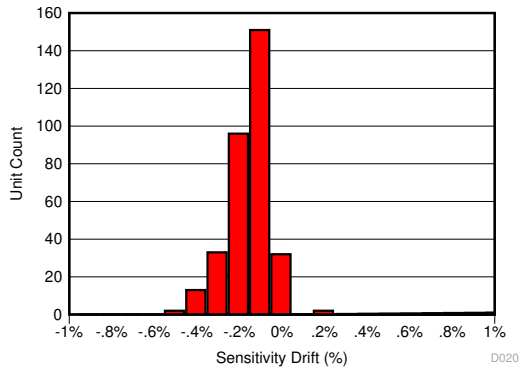
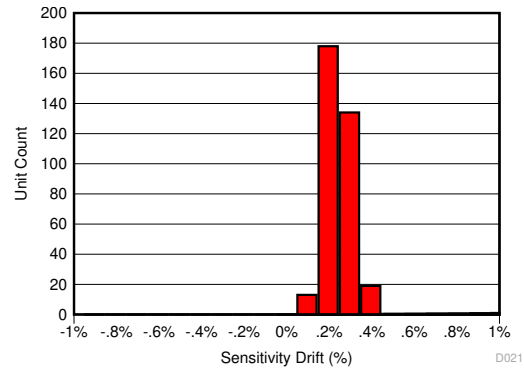
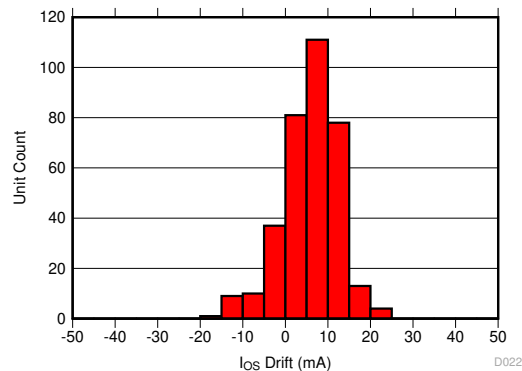

Figure 8-6. Sensitivity Error After 130°C, 85% RH HAST
Figure 8-7. Sensitivity Error Drift After AEC-Q100 High Temperature Operating Life Stress Test
Figure 8-8. Input-Referred Offset Drift After AEC-Q100 High Temperature Operating Life Stress Test
The same compensation techniques used in the TMCS1101 to reduce temperature drift also greatly reduce lifetime drift due to aging, stress, and environmental conditions. Typical magnetic sensors suffer from up to 2% to 3% of sensitivity drift due to aging at high operating temperatures. The TMCS1101 has greatly improved lifetime drift, as defined in the Electrical Characteristics for total sensitivity error measured after the worst case stress test during a three lot AEC-Q100 qualification. All other stress tests prescribed by an AEC-Q100 qualification caused lower than the specified sensitivity error, and are within the bounds specified within the Electrical Characteristics table. Figure 8-6 shows the total sensitivity error after the worst-case stress test, a Highly Accelerated Stress Test (HAST) at 130°C and 85% relative humidity (RH), while Figure 8-7 and Figure 8-8 show the sensitivity and offset error drift after a 1000 hour, 125°C high temperature operating life stress test as specified by AEC-Q100. This test mimics typical device lifetime operation, and shows the likely device performance variation due to aging is vastly improved compared to typical magnetic sensors.